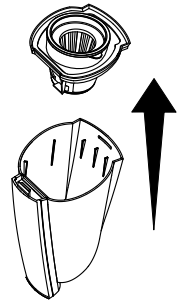

Fig.18
- Remove the filter basket from the dust cup. Empty the dust cup contents into a waste bin (Fig.18).